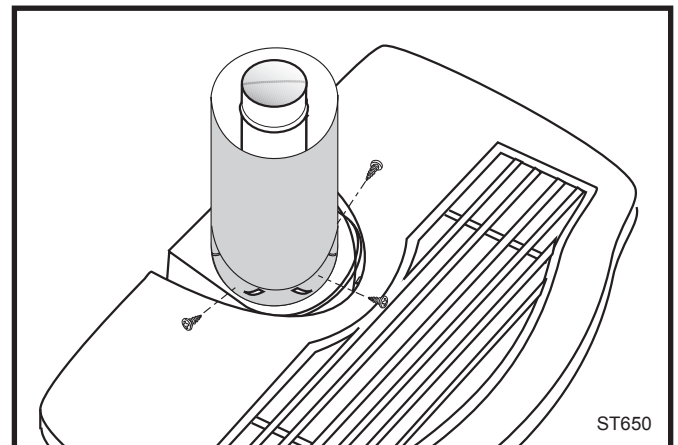

Fig. 21 Fasten outer pipe with #12 x 1/2" sheet metal screw.
- Insert the pipe over the stove flue collar, keeping the vertical seam oriented to the back of the stove. Also, be sure to align holes on the pipe with the holes on the flue collar of the firebox. Fasten the pipe to the holes in the flue collar with the #12 x 1/2" sheet metal screws provided. (Fig. 21)